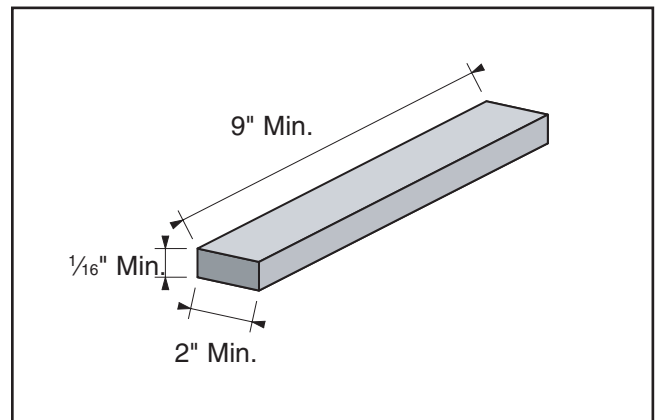

Figure 24. Minimum dimensions for sanding.
- DO NOT sand boards less than 9" long, 2" wide and $\frac{1}{16}$ " thick to prevent damage to the workpiece and to reduce the risk of your hands contacting the abrasive belt (see **Figure 24**).